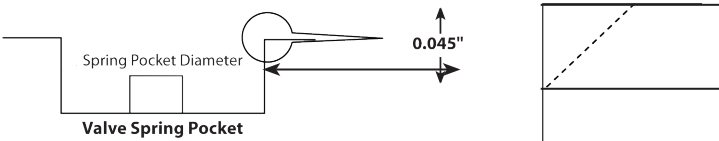

Fig. 1
Installation of PN 900-0212 (.650") spring kit may require minor modifications to some heads. See Fig. 1, below. The upper corner of the spring pocket may need to be chamfered to allow for additional clearance between the spring and the head. To determine if modifications are necessary, measure the spring pocket diameter. If this measurement is 1.500", the upper corner of the spring pocket will need to be chamfered with a die grinder or file. This chamfer allows for additional clearance when the spring is compressed. If the pocket measurement is 1.515", modifications are not required. Thoroughly clean the head when modifications are complete. Do not attempt to modify the spring in any way to gain additional clearance.
- 2. Determine if the upper corners of the spring pocket may need to be chamfered to accept the .650" Sidewinder springs (see information at the beginning and Fig. 1, above).